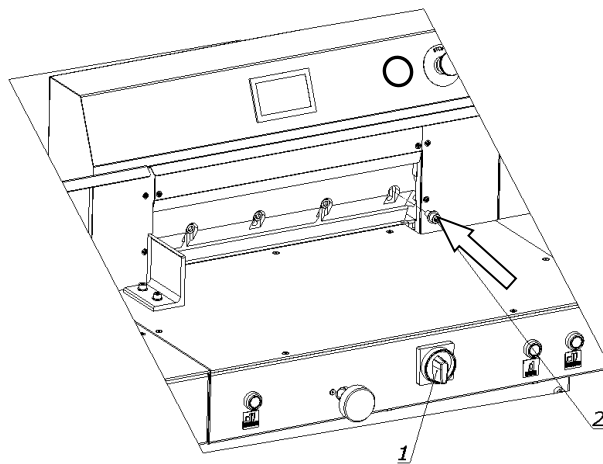

Figure 32a.
**8.1.2.11.** Screw in the bolt 2 lightly (fig.32a)